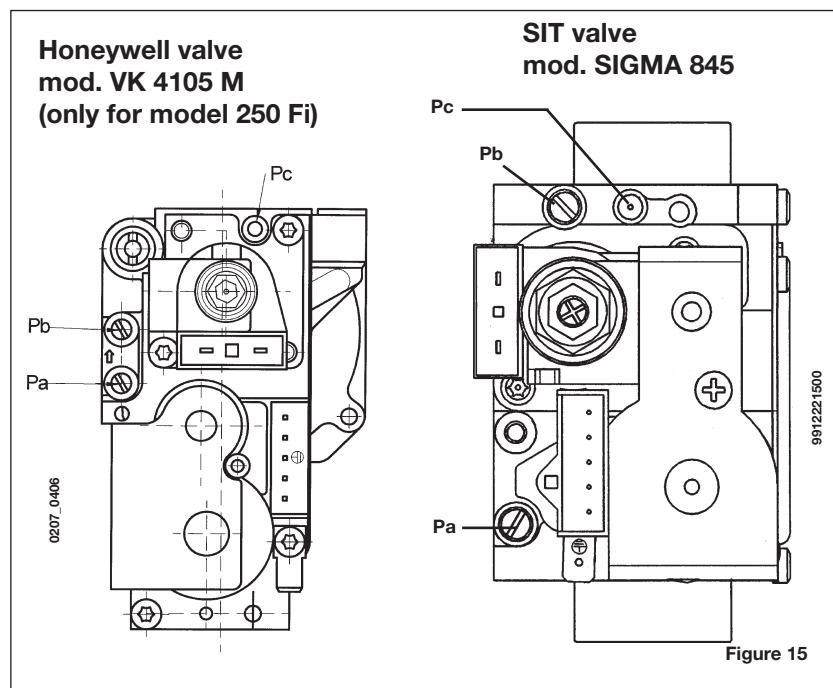

Figure 15
The authorised Technical Assistance Service can convert this boiler to natural gas (G20) or liquid gas (G31). The procedure for calibrating the pressure regulator varies slightly according to the type of gas valve fitted (HONEYWELL or SIT, see figure 15).
- connect the positive pressure test point of a differential pressure gauge (possibly water-operated) to the gas valve pressure test point (**Pb**) (Figure 15). Only for models with sealed chambers, connect the negative pressure test point of the pressure gauge to a "T" fitting in order to join the boiler adjustment outlet (**Pc**) and the pressure gauge. (The same measurement can be made by connecting the pressure gauge to the pressure test point (**Pb**) after removing the front panel of the sealed chamber);
- make sure that the dynamic inlet pressure of the boiler, measured at the gas valve pressure test point (**Pa**) (Figure 15) is correct (**37 mbar for propane** or **20 mbar for natural gas**).